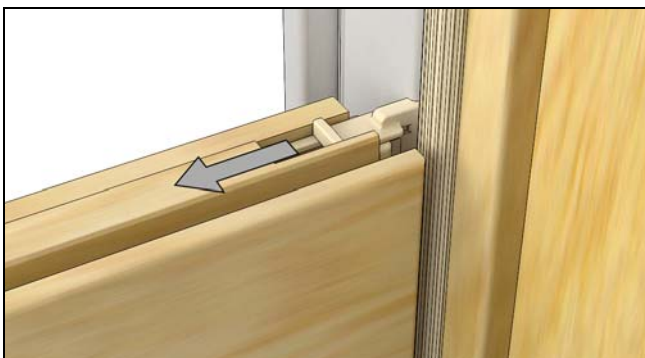

Figure 28
4. Lower top sash about 1/2 way. Pull the tilt latches (in the top edge of sash top rail) until they retract fully. Hold latches until they clear unit frame when tilting. See Figure 28.